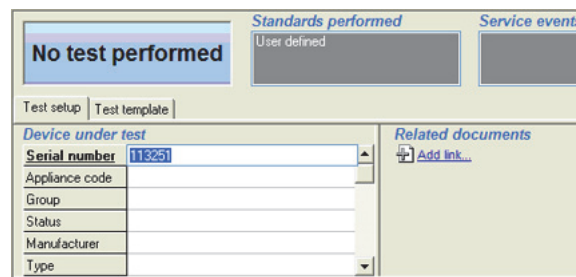

Figure 3-70. Editing DUT Information
- Click an entry in the table named **Device under test** and enter the information for the device to be tested. Figure 3-70 shows the DUT information window.